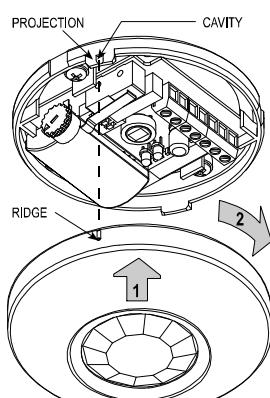

Figure 6. Remounting the Cover
- C. Mount the front cover in place: line up the ridge on the cover with the cavity in one of the two projections on the base circumference (Fig 6). Fit the cover over the base, and rotate the cover clockwise until it stops.